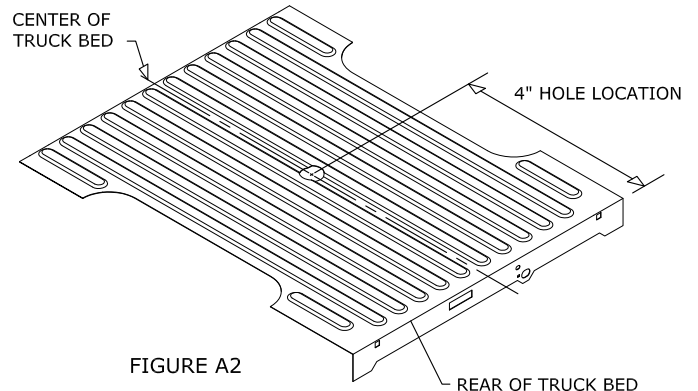

FIGURE A2
6. Mark the 4" hole location. Using a tape measure hooked over the rear edge of the bed (at tailgate end), measure the location for the hole as shown in figure A2. Next, locate the center of the bed by measuring the distance between the wheel wells and dividing by two. The center of the hole will be at the intersection of the center of the bed and the first distance measured.